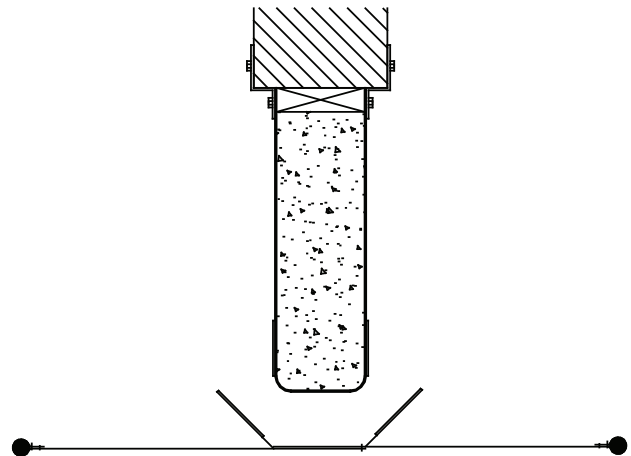

FIGURE 3
1. Align top edge of side curtain to top edge of side frame at the same time aligning one of the velcro flaps on the inside of the side curtain to the velcro on the inside of the side frame on the same side. (See Figure 3)